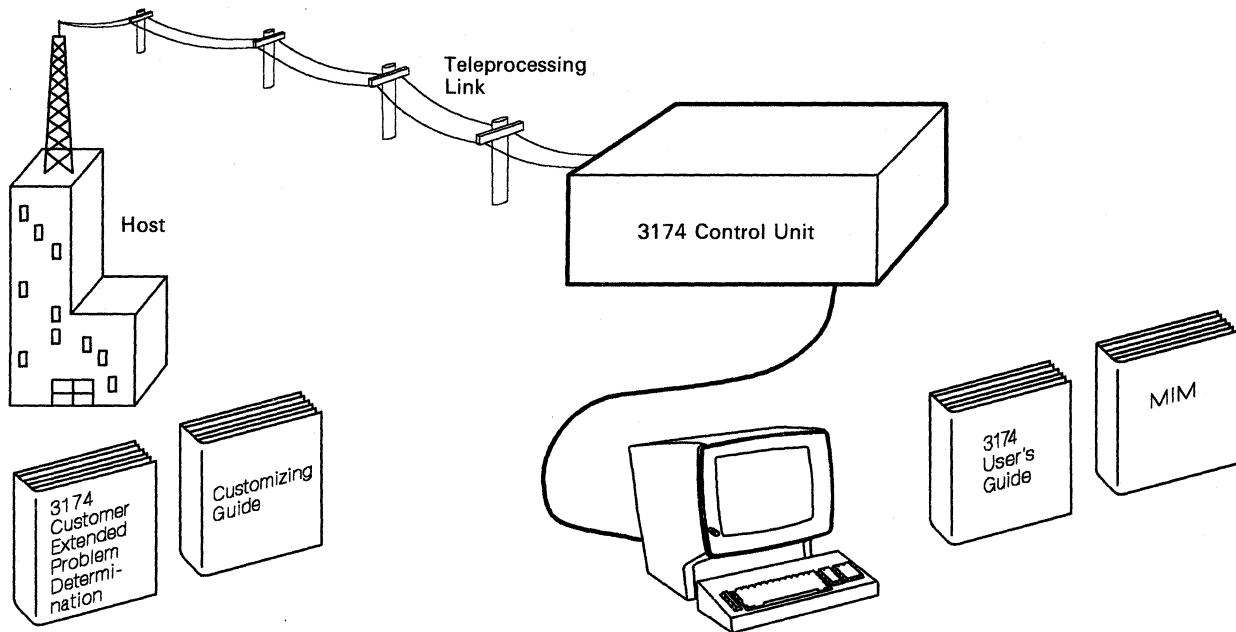

Figure 1-5. Locations of 3174 *Extended Problem Determination* and *User's Guide*
- The *3174 Customer Extended Problem Determination* is used by skilled customer personnel at the host site (see Figure 1-5) to help the *User's Guide* audience at the remote site.
This guide is intended for use by an operator at a remote site (see Figure 1-5 on page 1-6). This user is expected to contact a help desk when an unusual problem or event occurs.